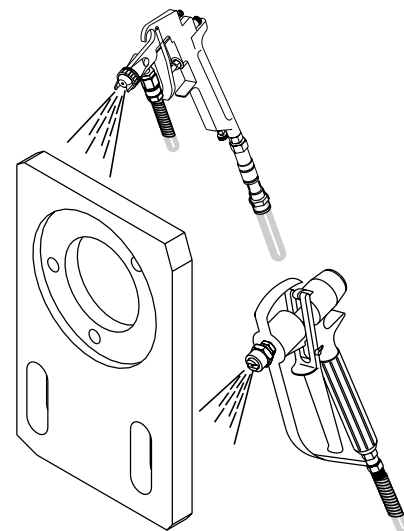

Fig.31
11) Once the correct pressure has been reached aim the spray gun at the product to be painted and begin operations (fig.31).